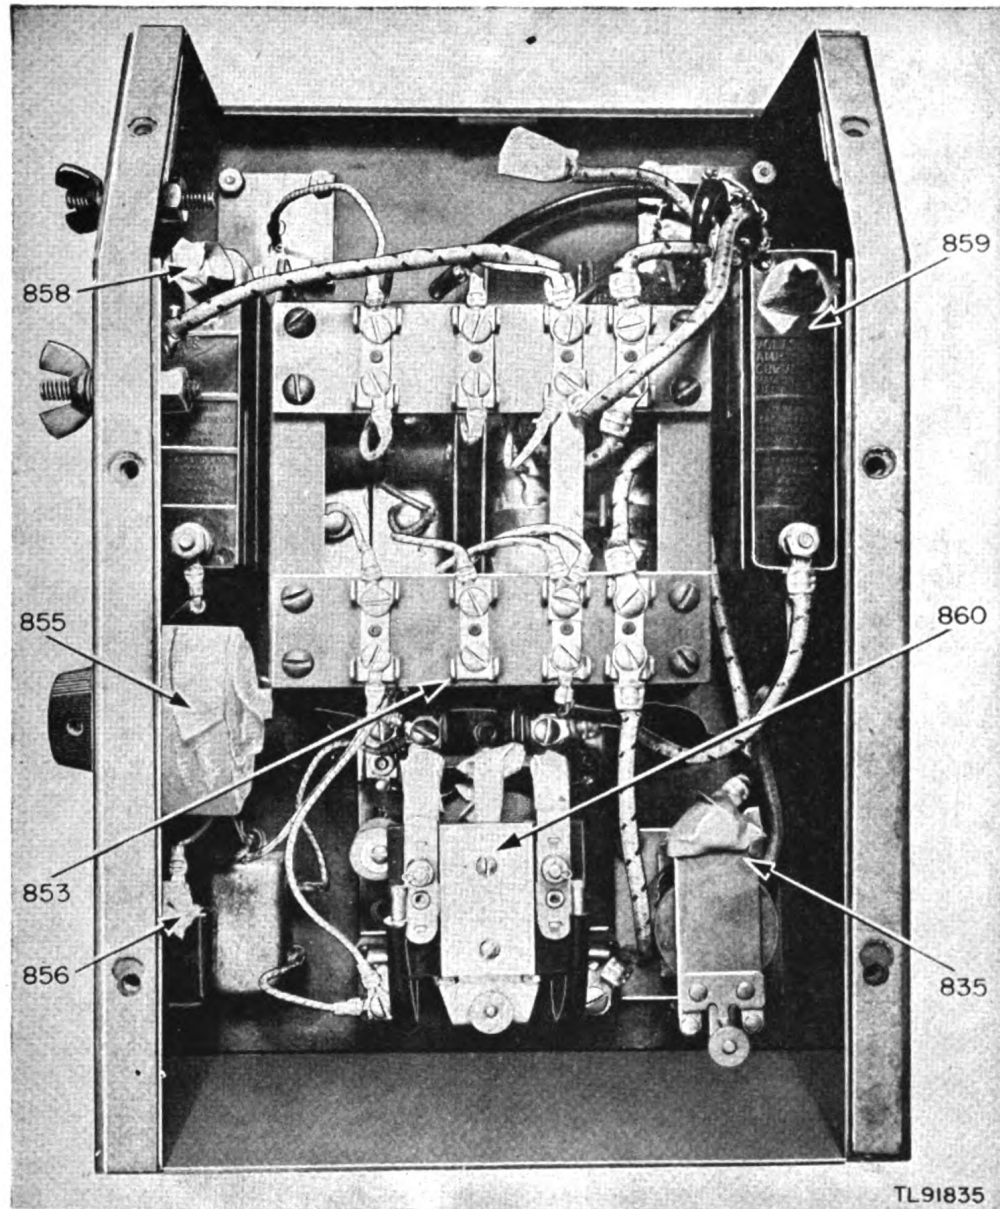

Figure 50. Interior of control box for Power Unit PE-49-F or PE-49-G—showing parts masked.
(6) Remove armature lead from lower terminal strip. (See fig. 50 (853).)
(9) Remove positive high-voltage lead (+) from top terminal of high-voltage circuit breaker. (See fig. 50 (858).)
(10) Remove negative high-voltage lead
(—) from lower terminal strip. (See fig. 50 (853).)
(11) Remove four cap screws holding control box to generator.
(12) Remove two locknuts holding control box to nipples.
(13) Remove control box, pulling generator leads through back of control box. These leads will be treated later.
(14) Remove lead from positive battery-charging terminal (fig. 50 (872)) to battery cut-out. (See fig. 50 (835).)
(15) Remove top of control box to be treated later.
(16) Replace and tighten all nuts and screws that were removed when the leads were removed.
(17) Clean all dirt, dust, rust, fungus, oil, grease, etc., from the equipment to be processed.
c. MASKING. (1) Use tape to mask the three pairs of contacts on top of the starting relay. (See fig. 50 (860).)
(2) Use tape to mask the pair of contacts on the battery cut-out. (See fig. 50 (835).)
(3) Use tape to mask the top terminal of the high-voltage circuit breaker. (See fig. 50 (858).)
(4) Use tape to mask contact on FIELD
SWITCH. (See fig. 50 (856).)
(5) Use tape to mask the top terminal on the low-voltage circuit breaker. (See fig. 50 (859).)
(6) Use paper and tape to mask rear and body of FIELD RHEOSTAT. (See fig. 50 (855).)
- (1) Spray inside of control box and all attached components. (See fig. 50.)